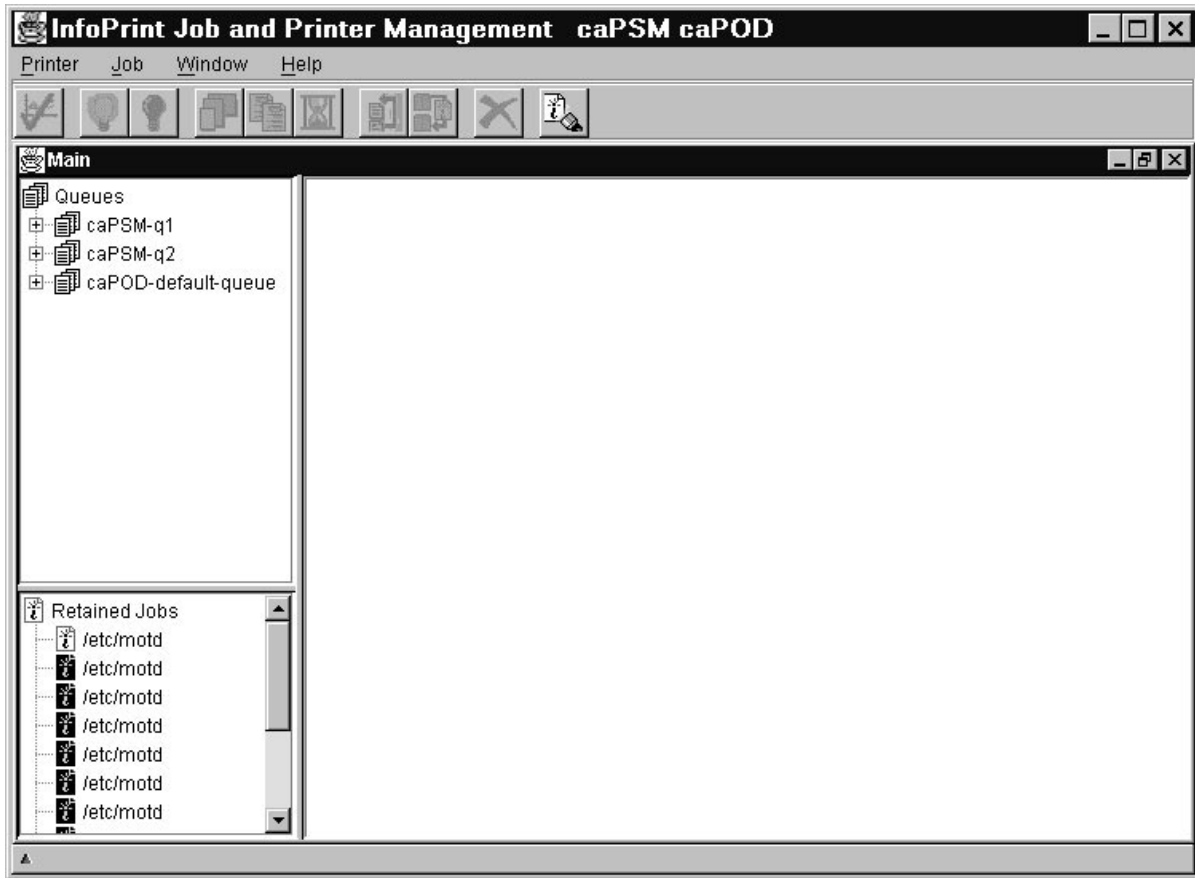
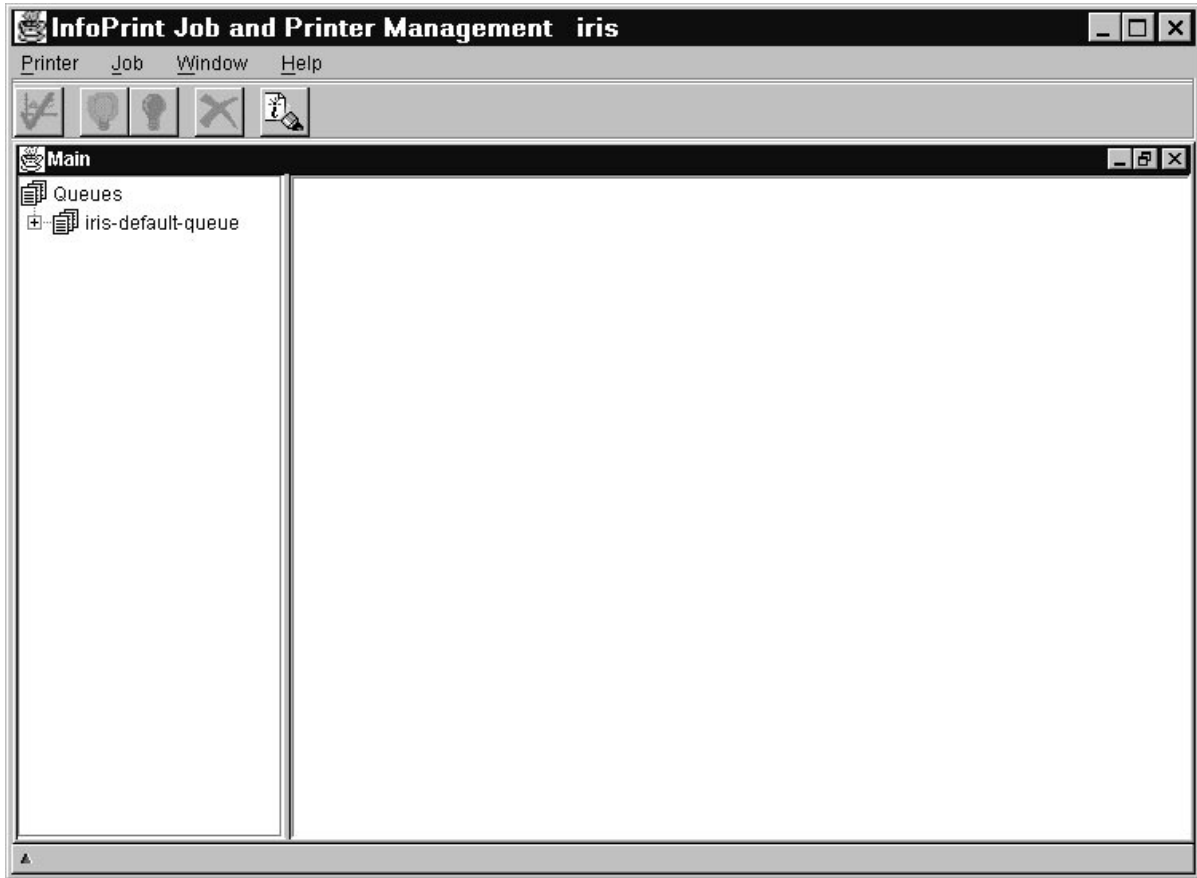

Figure 26. Advanced View of the Main Window of the InfoPrint Job and Printer Management GUI
Figure 27. Distributed View of the Main Window of the InfoPrint Job and Printer Management GUI
- Select **InfoPrint Advanced** to open a view similar to Figure 26 on page 50.
- Select **InfoPrint Distributed** to open a view similar to Figure 27 on page 51.
- Select **Advanced** to open a view similar to Figure 26 on page 50.
- Select **Distributed** to open a view similar to Figure 27.
3. Double-click on **Advanced Operator GUI** to open a view similar to Figure 26 on page 50, or on **Distributed Operator GUI** to open a view similar to Figure 27 on page 51.
- Double-click on **Advanced Operator GUI** to open a view similar to Figure 26 on page 50.
- Double-click on **Distributed Operator GUI** to open a view similar to Figure 27 on page 51.
- To open a view similar to Figure 26 on page 50, enter:
- To open a view similar to Figure 27 on page 51, enter: